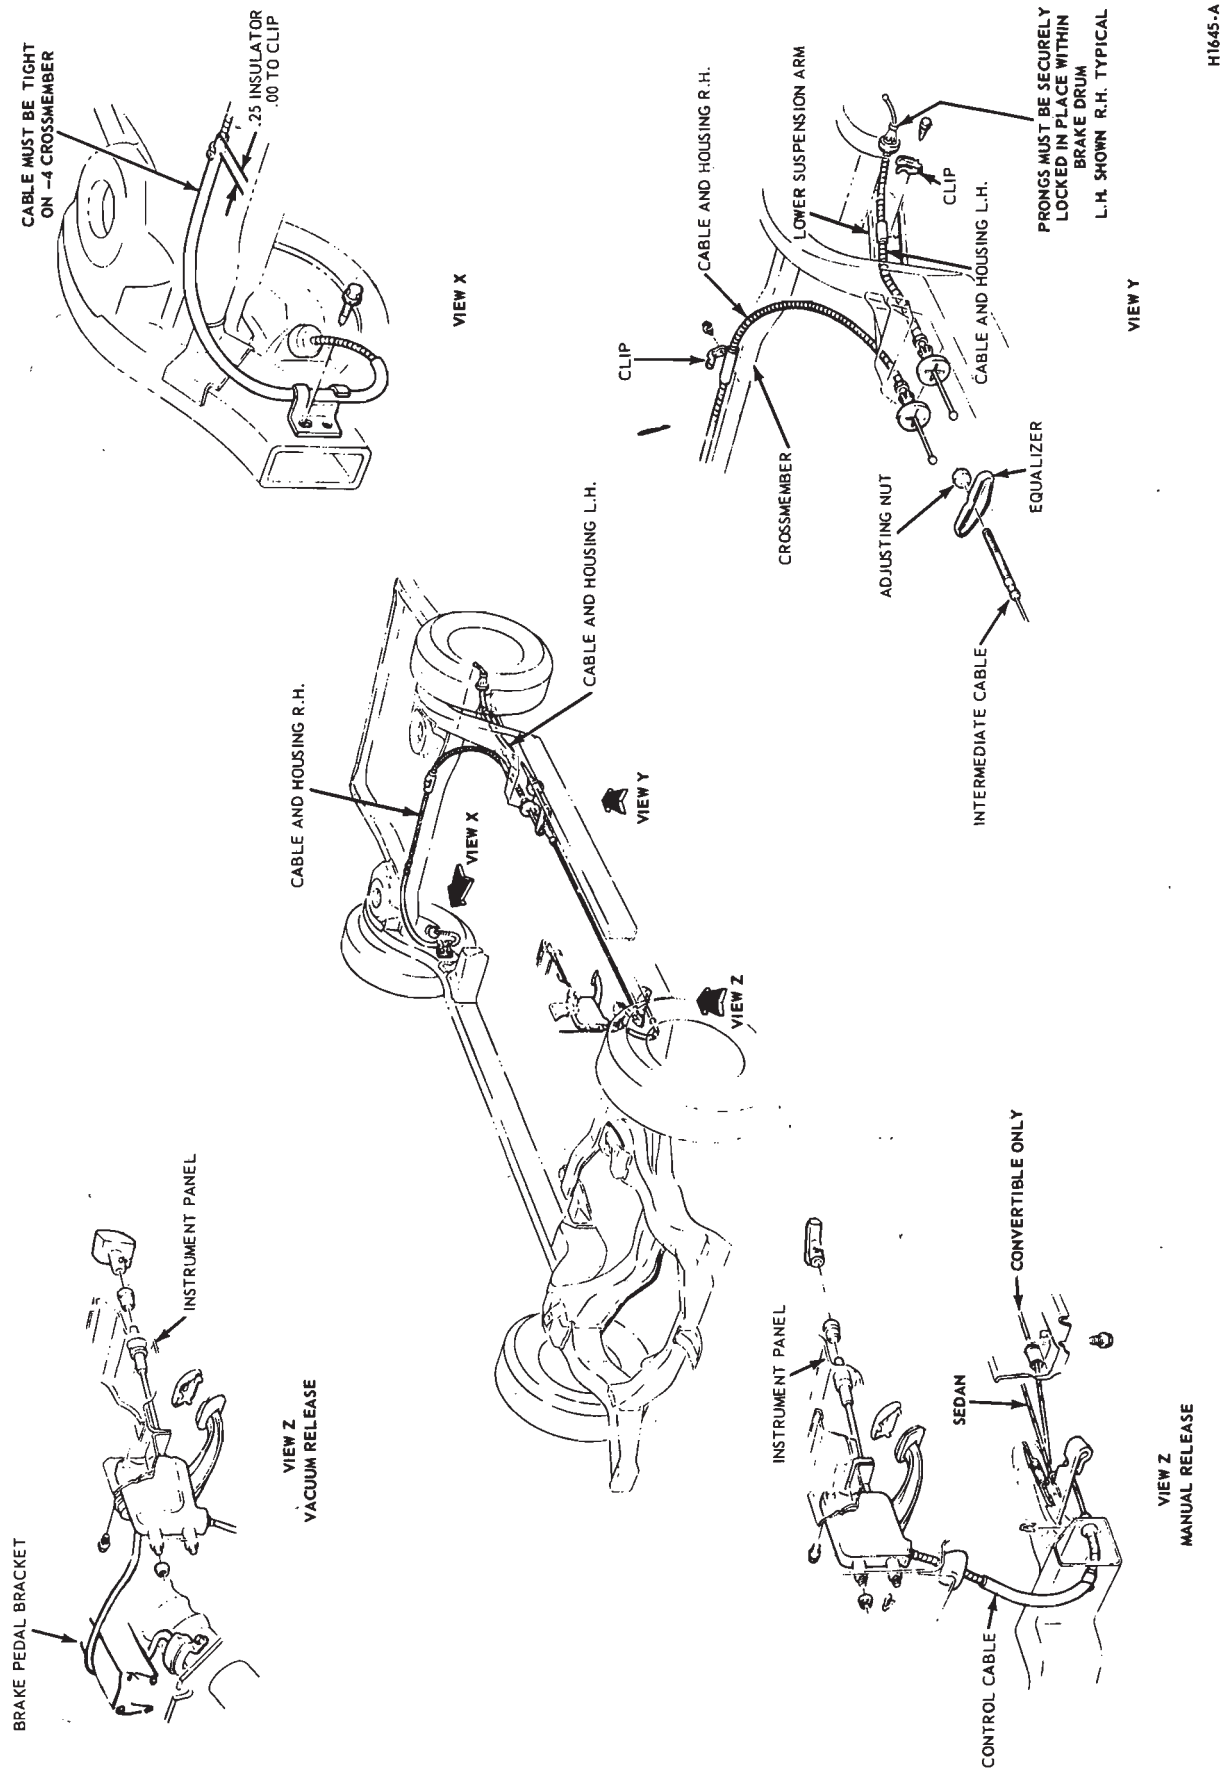

FIG. 3—Parking Brake System—Ford, Mercury and Meteor
3. Tighten the adjusting nut against the cable equalizer (Fig. 3, 4, 5, 6, 7, 8) to cause rear wheel brake drag.
Refer to Fig. 3.
2. Loosen the actuator lever to equalizer cable adjusting nut at the equalizer (Fig. 3).